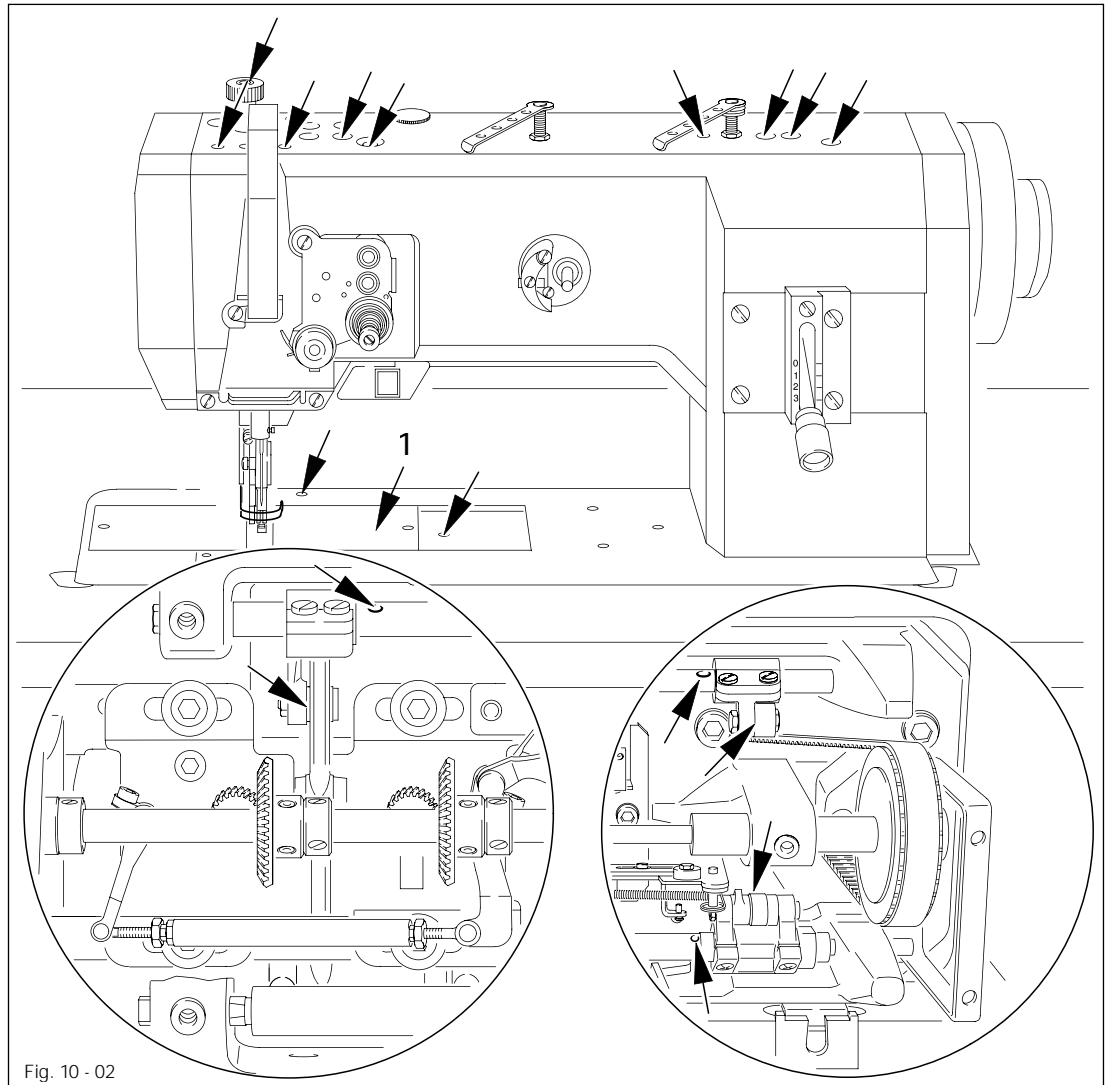

Fig. 10 - 02
- Lubricate all bearings and moving parts marked in Fig. 10 - 04 twice a week.